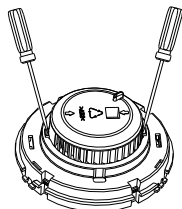

Fig. 10
a) Open the top cover of detector, and draw out the sensing chamber by slightly lifting its two sides using a straight screwdriver, as shown in Fig. 10.